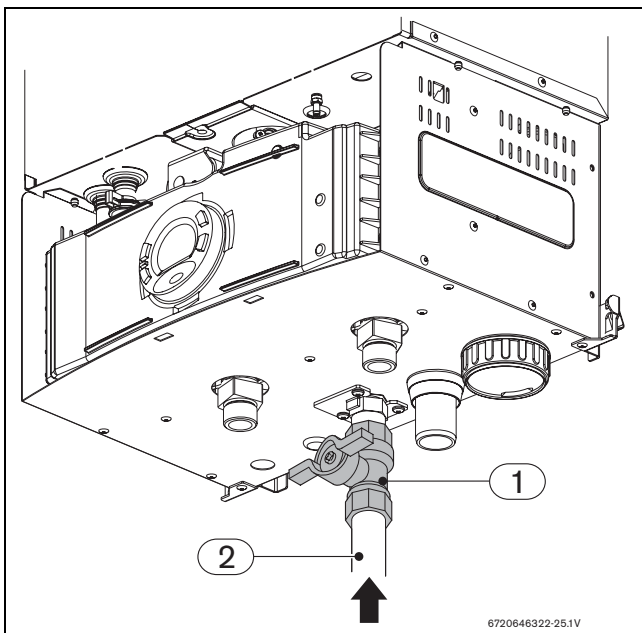

Fig. 35
- Tighten the threaded head on the gas inlet (→ Fig. 35, pos. 1) and make connection to the gas supply pipe (→ Fig. 35, pos. 2).